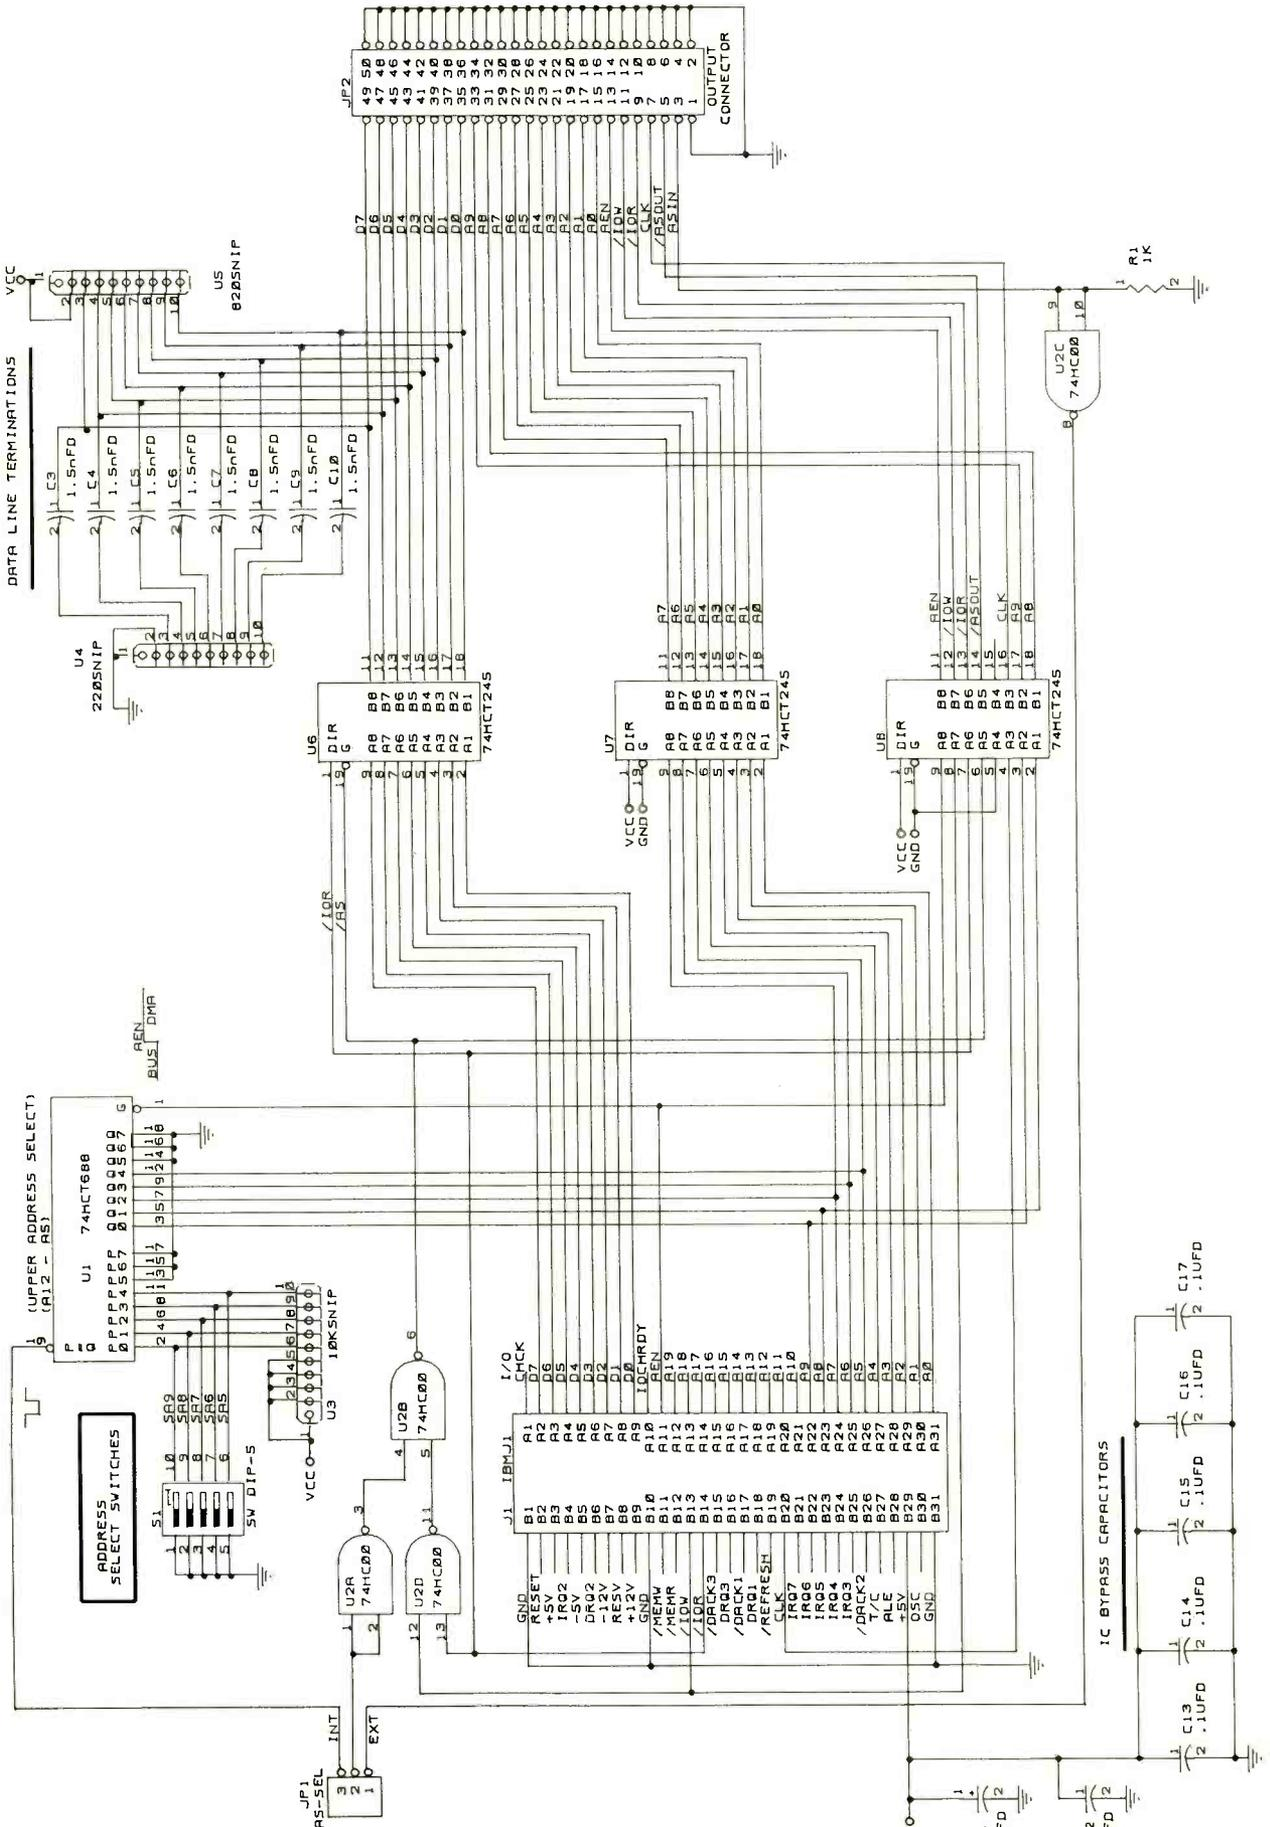
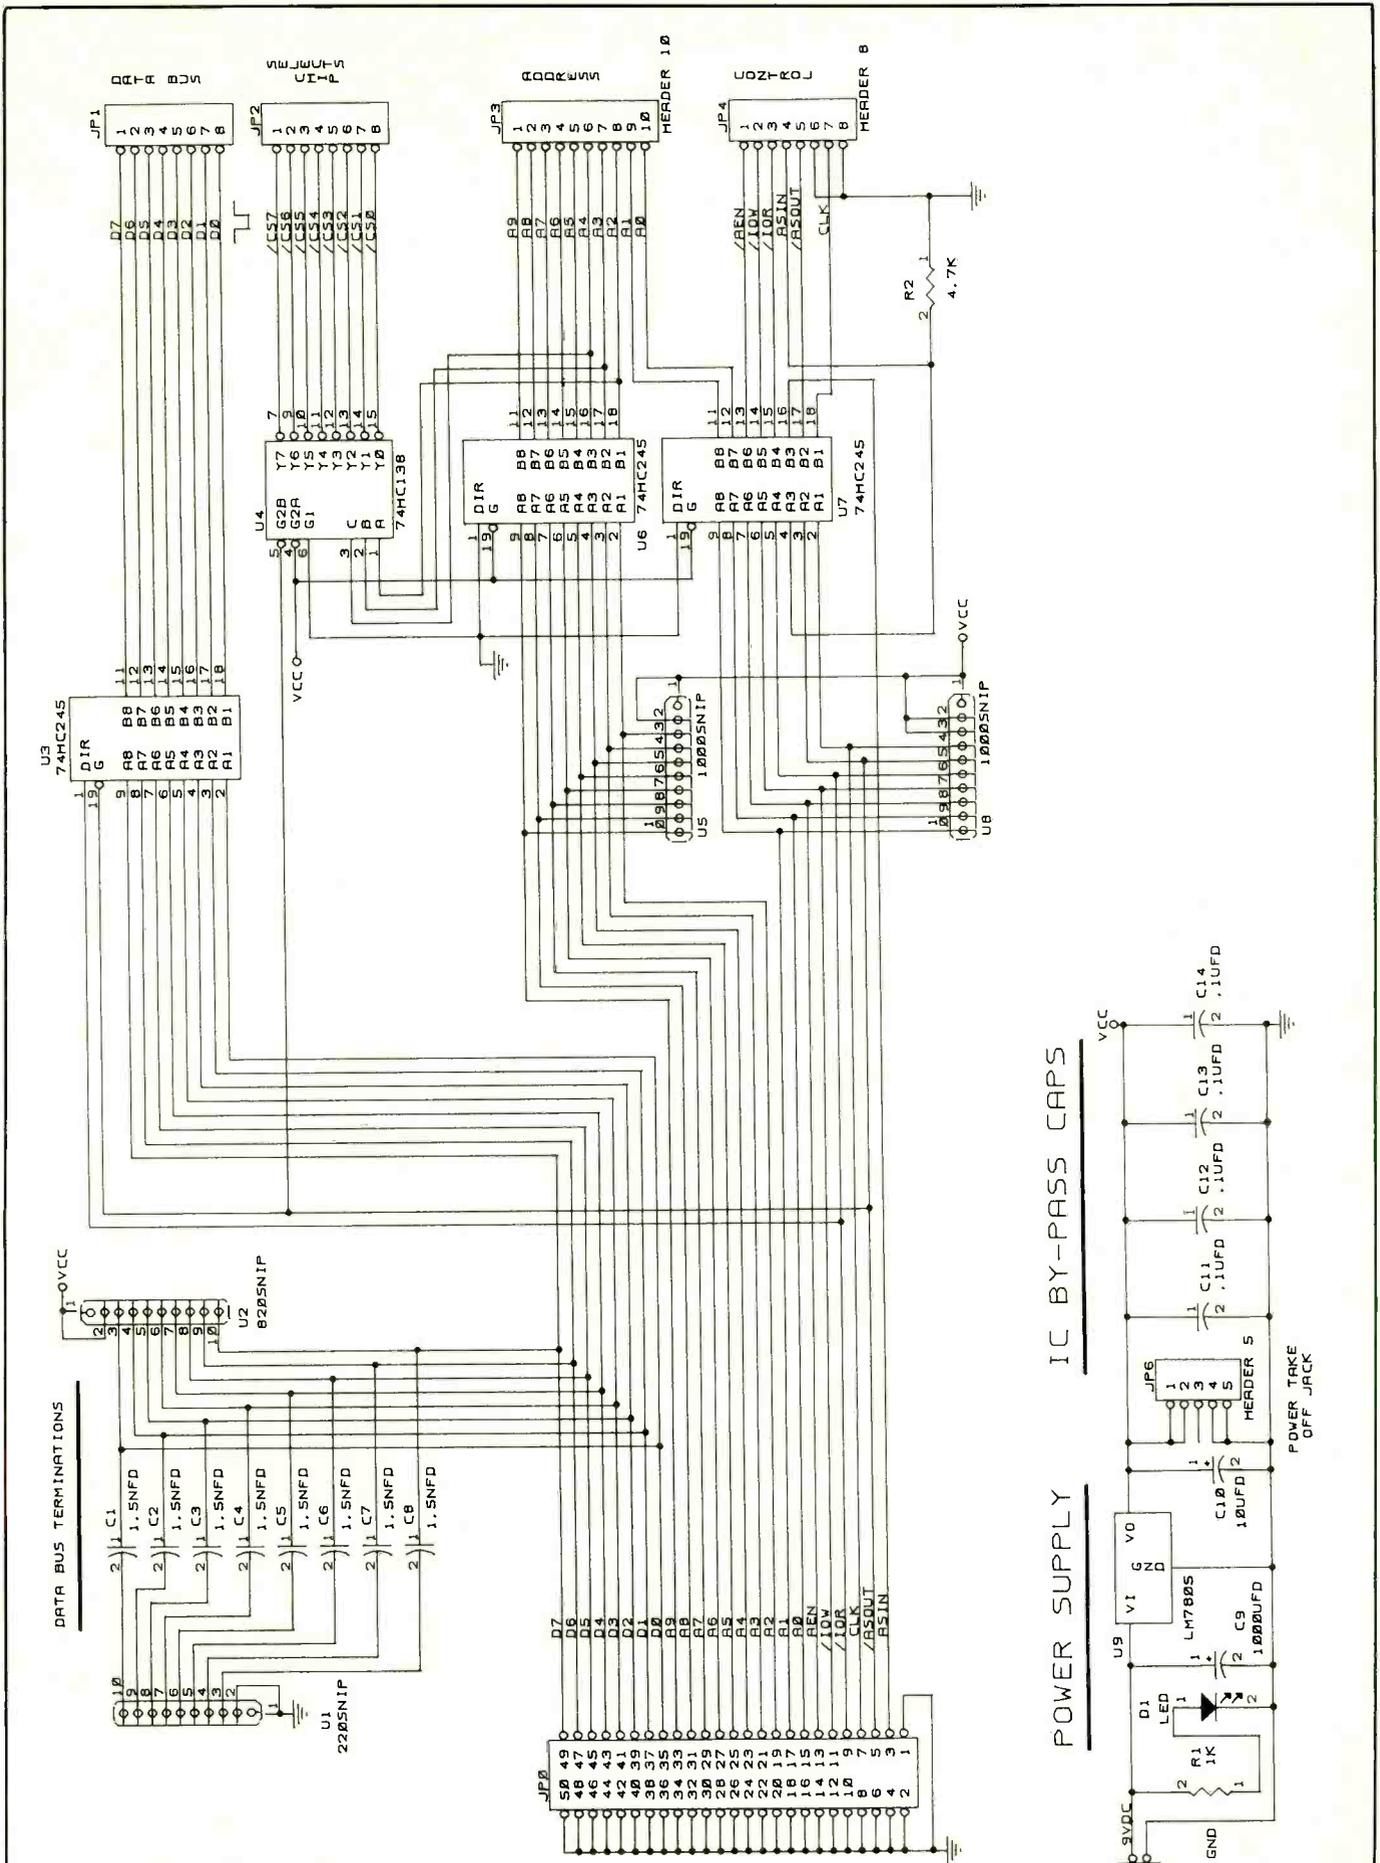

Fig. 3. Schematic details of plug-in Interface Board's circuitry.
Fig. 4. Schematic details of Remote Breakout Board's circuitry.
In the schematic diagram of the Interface Board circuitry shown in Fig. 3, U1, S1, U2A, U2B and U2D make up the address-decoding logic for the Interface-Board. Eight-bit comparator U1 produces an output when P0 through P7 equal Q0 through Q7 and gate control input G is low (logic 0).
Note in Fig. 4, the schematic diagram for the Remote Breakout Board's circuitry, the same data-bus termination network at the input to second data bus buffer U3. Also, U5 and U8 are resistor terminations to V_{cc} for the address and control lines coming onto the board.
In Fig. 4, 74HCT138 3-to-8-line Decoder *U4* requires a bit of explanation. Before plunging in, however, look at
data bus buffer *U3*. DIR input pin 1 of *U3* is driven by the /IOR signal, and gate (G) input pin 19 is driven by the /ASO signal, just like *U6* in Fig. 3. The control lines of these two chips are connected in parallel. Chips *U6* and *U7* in Fig. 4 are used as mono-